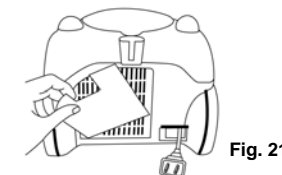

Fig. 21
2. Remove the filter. (Fig. 21)